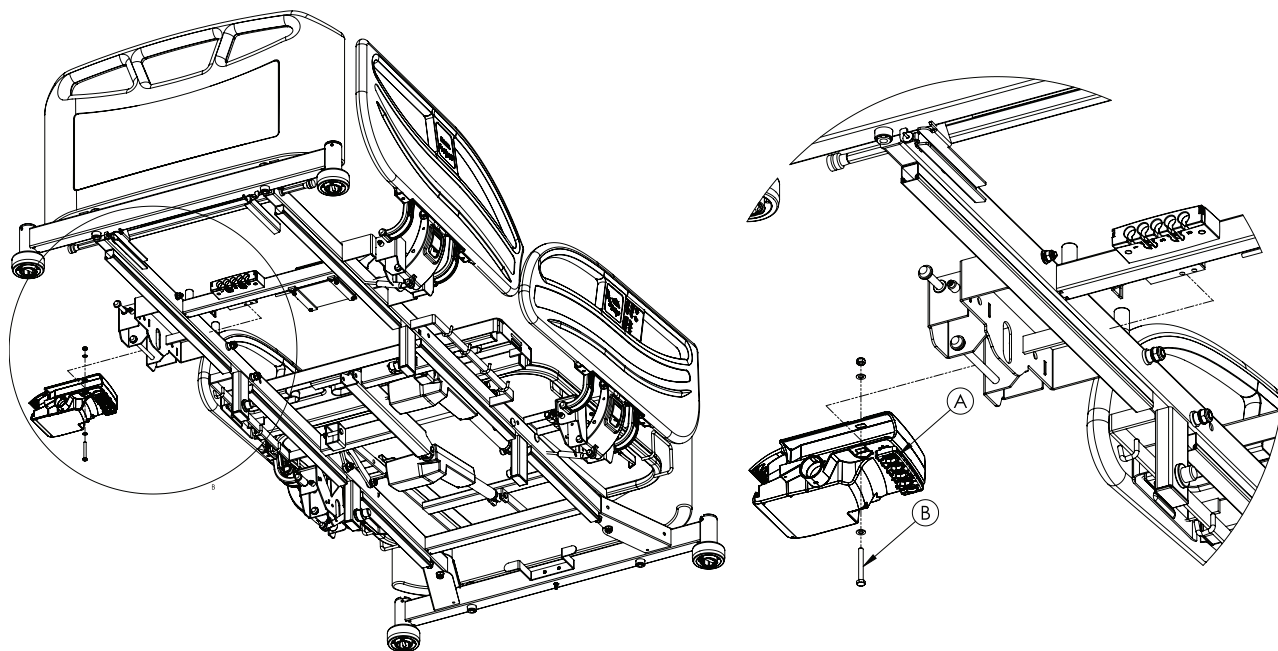

Figure 11: Control box
6. Using a small flat screwdriver, un-clip the actuator cable retainer (A) from the control box (Figure 11 on page 51).
11. Using a 10 mm combination wrench and a 10 mm socket, remove the bolt (B) that secures the control box to the litter frame (Figure 11 on page 51).